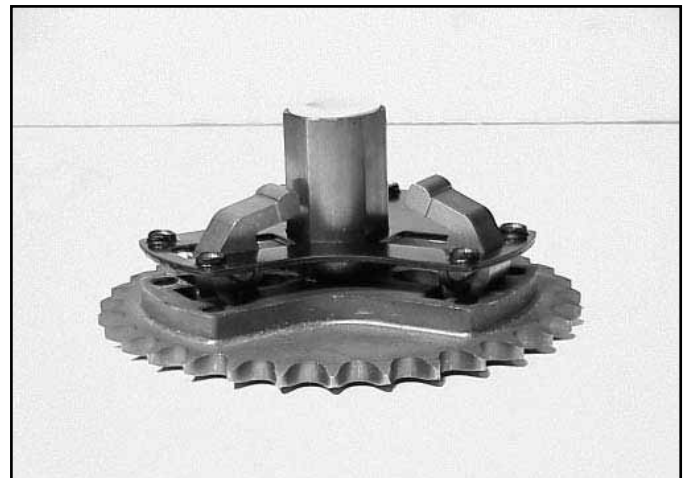

Fig 191
2. With the pawls facing up and away from the hub, slide the retainer plate onto hub. Make sure the pins are seated flush and the retainer plate sits flush onto the gear (Fig. 191).